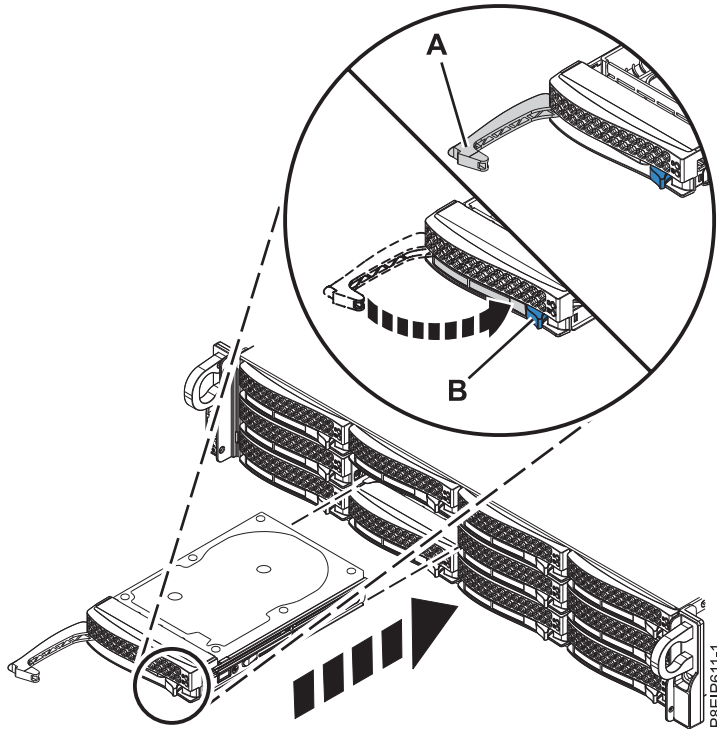

Figure 8. Disk drive lock detail
4. Lock the drive bay handle (A) by pushing in the handle release until it locks at (B) as shown in Figure 8 on page 9.